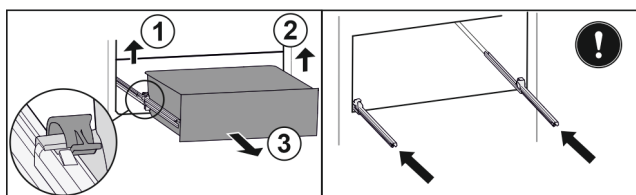

Fig. 134
- Lift left clamp and simultaneously pull drawer forwards on the left. Fig. 134 (1)
- Lift right clamp and simultaneously pull drawer forwards on the right. Fig. 134 (2)
- Remove drawer to the front. Fig. 134 (3)